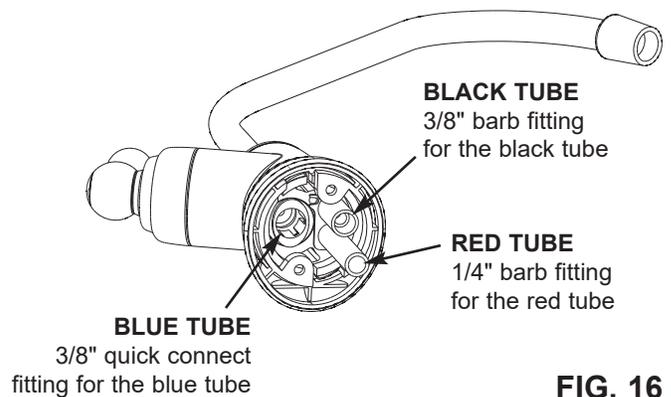

FIG. 16
4. Feed a length of 3/8" blue tubing up through the hole and insert end into the push-in fitting on the bottom of the faucet. See Figure 16. Push tubing through the collet and all the way into the fitting. Full engagement is 3/4" length of tube into the fitting. Pull on the tube to be sure it's held firmly in the fitting. The other end of this tubing will be connected to the RO system, as shown on page 16.
- C. Insert all the way onto the 1/4" faucet barb fitting on faucet. See Figure 16.
6. Feed a length of 3/8" black tubing up through the hole and connect to the 3/8" barb on the bottom of the faucet. See Figure 16. The other end of this tubing will be connected to the drain, as shown on page 16.